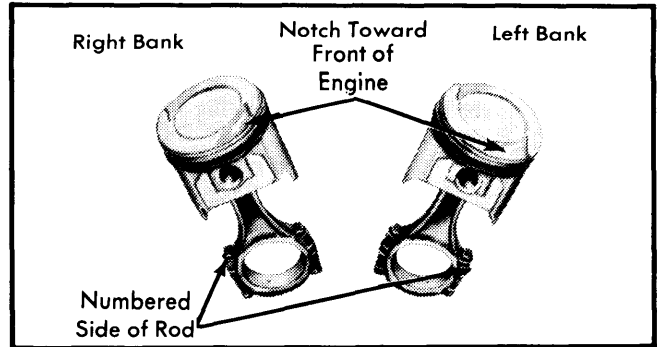
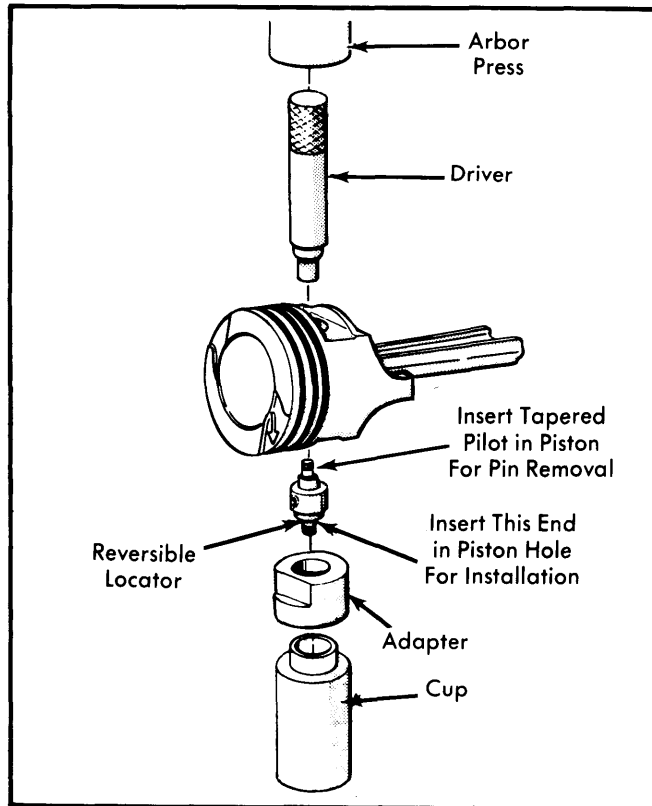

Fig. 9 Fitting Piston and Connecting Rod Assembly
Fig. 11 Removing and Installing Piston Pins
Removal — Using an arbor press and removal/installation tool T68P-6135 and adapters, press piston pin out of connecting rod and piston. See Fig. 11.
2) Position piston on connecting rod as shown. See Fig. 9. Use arbor press to press piston pin into connecting rod and piston. See Fig. 11.